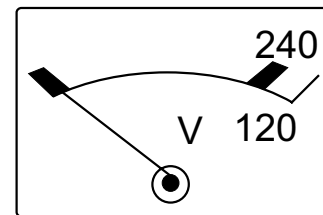

Figure 41. AC Voltmeter (Zero Volts)
7. Verify that the AC voltmeter (Figure 41) on the generator reads zero volts.